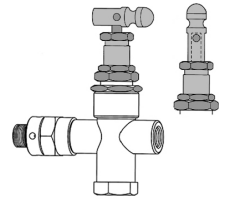

Figure 2.
3. Move the piloted unloader lever to the vertical start position (Fig. 2).
2. Move the piloted unloader lever to the vertical start position (Fig. 2).